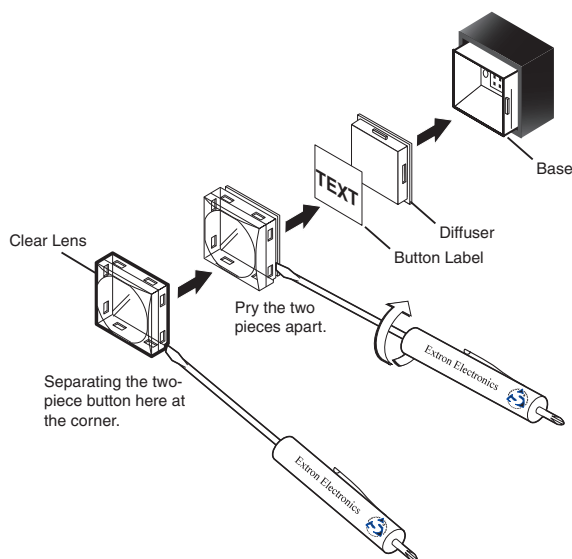

Figure B-1 — Illuminated button label replacement
2. Remove the button from the switcher by grasping the button firmly and pulling it away from the front panel (figure B-1).